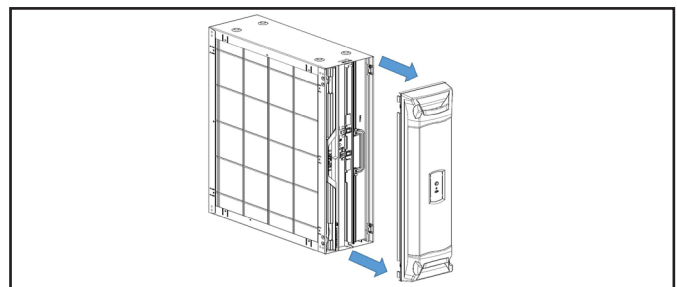

Figure 10 Removing Door Assembly
**Step 1:** Remove the Door Assembly from Whole Home Air Cleaner by pulling away from the unit assembly. Place on the flat and clean working surface with interior components facing up. See Figure 10.
**Handle the door only by using the handles on the front of the door. Grasp the door by the handles as depicted in Figure 10 to remove and replace the door. Do not handle the door on the edges. Metal edges may be sharp and could result in injury if the door is not handled properly.**